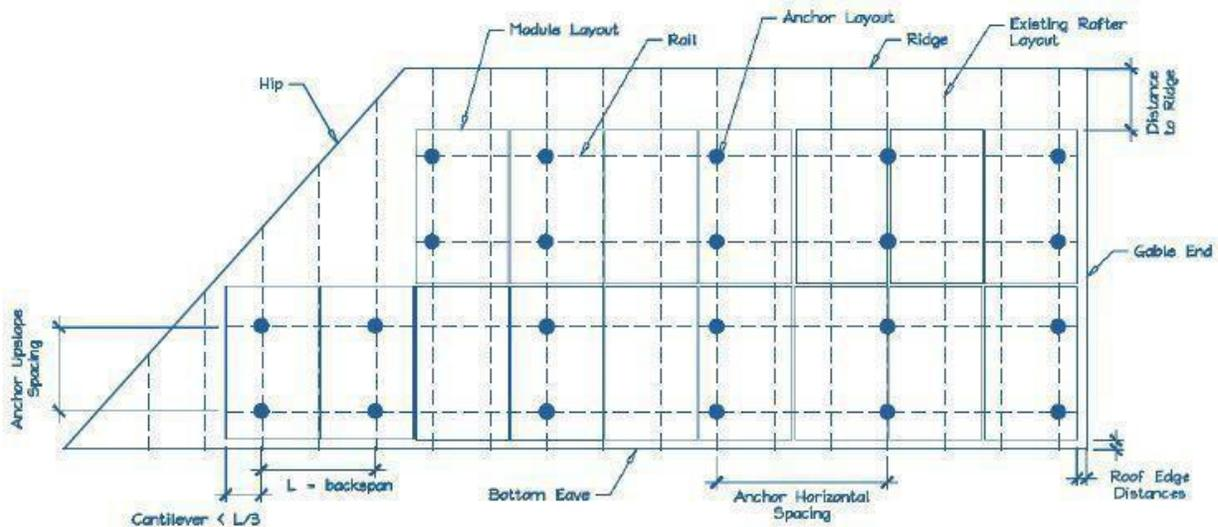

Figure 2 Sample Solar Panel Array and Anchor Layout Diagram (Roof Plan)
- _____ Is a roof plan of the module and anchor layout attached? (see Figure 2)
- 1) Proposed anchor horizontal spacing (see Figure 2): ___ ‘- ___ “ft.-in
1. Anchors are also known as "stand-offs," "feet," "mounts" or "points of attachment." Horizontal anchor spacing is also known as "cross-slope" or "east-west" anchor spacing (see Figure 2).